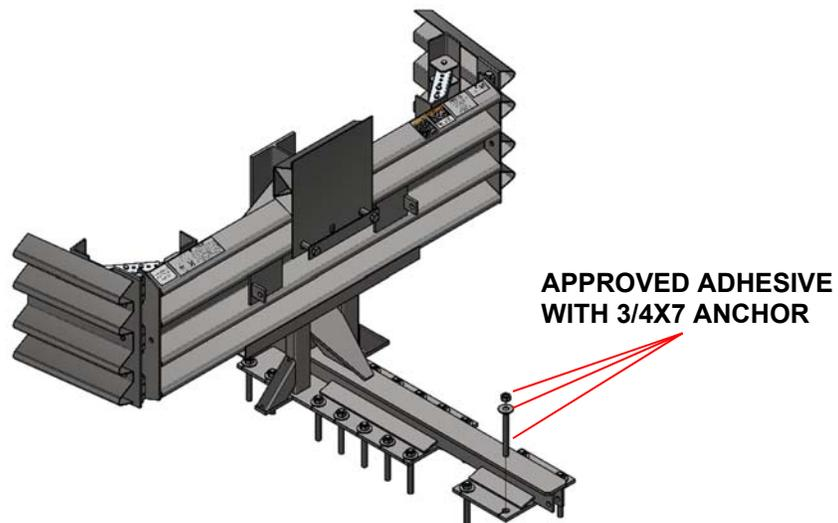
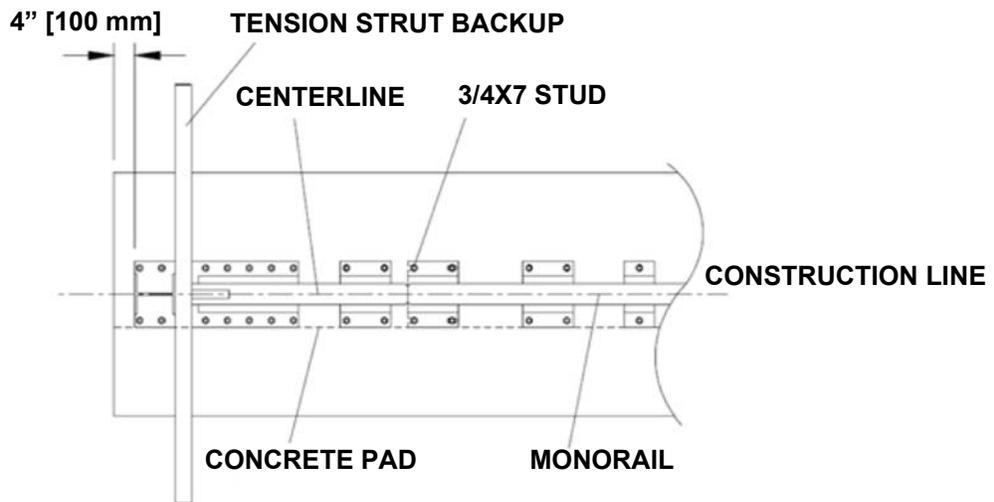

Figure 18
Figure 20
See Figure 18 (showing Backup Assembly) and Figure 20 (showing Monorail deployment). Also refer to the drawing package and the approved anchoring instructions (p. 16).
Step 1. Tension Strut Backup Assembly (Figure 18)
Locate the Backup and Monorail on the pad with the side of the Monorail on the construction line (Figure 20). Verify that applicable Transition Panels fit properly before anchoring the Backup. Drill 22mm diameter by 146 mm deep anchor holes in the pad using the Backup as a template. Do not drill through pad. Anchor the Backup to the concrete pad using approved adhesive kits (p. 16).
Locate the Monorail on the construction line as shown in the Monorail Assembly drawings. Drill 22mm diameter by 146 mm deep anchor holes using the Monorail as a template (Figure 20). Do not drill through the pad. Anchor each Monorail section using the provided approved adhesive kits (p. 16). It is important to attach each segment of Monorail in alignment from the back to the front of the system ($\pm 1/4$ " [6 mm]).